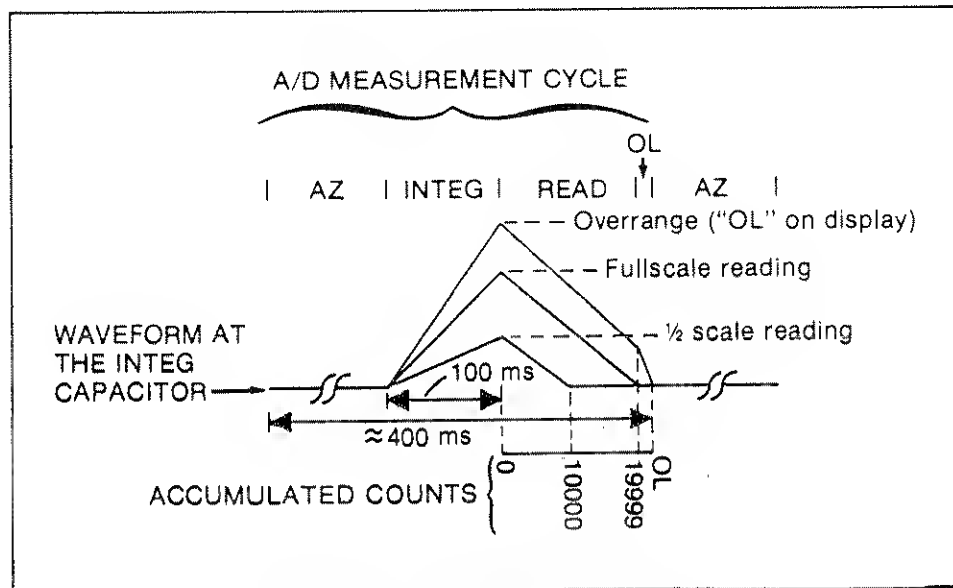

Figure 3-3. A/D Measurement Cycle
The complete a/d measurement cycle is shown in Figure 3-3. It consists of three consecutive time periods: autozero (AZ), integrate (INTEG) and read. A fourth time period, overload (OL) is also used if an overrange reading is taken. The total length of the measurement cycle is 400 ms. The length of the integrate period is fixed at 100 ms. One hundred ms is a multiple of the period of 50 Hz or 60 Hz power, which helps to reduce possible power line noise that might interfere with the measurement. The waveform at the INTEG capacitor is shown for three sample measurement readings: half-scale, full-scale, and overrange.